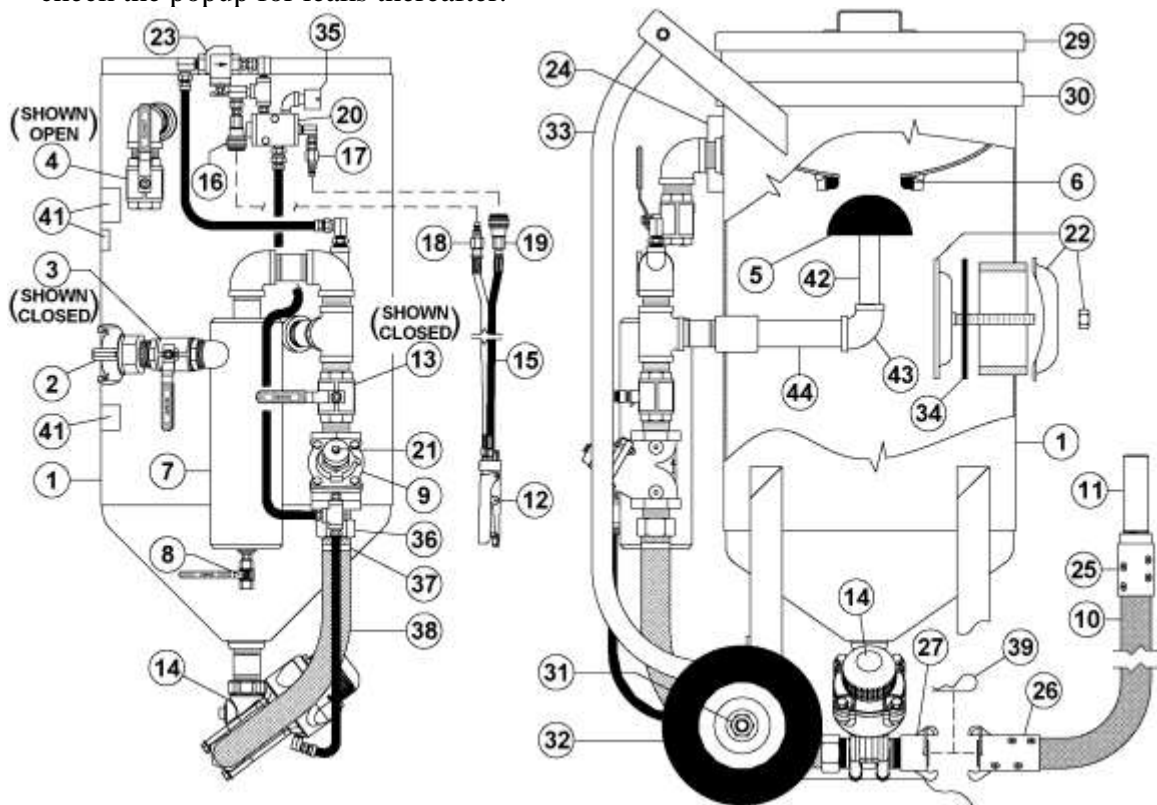

Figure 7.1 – Thompson® Valve Abrasive Blaster with pneumatic blast controls
7.1.2. Remove the vessel lid (#29) and screen (#30) to check that the popup (#5) has dropped open. The open popup indicates that the blast vessel is depressurized. See Figure 7.1.
7.2 Beginning the Blasting Operation (See Figure 7.1 and 7.2)
- 7.2.6. Close the blowdown ball valve (#4). The ball valve is closed when the handle is perpendicular to the body (See Figure 7.1 or 7.2).